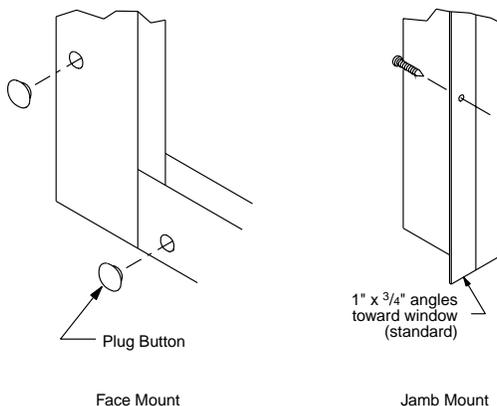

Figure 8
- B. For face mount, side channel mounts on the surface of the wall or window mullion. Fasteners go through the side channels. Plug buttons should be used to cover holes (access and mounting holes will be pre-drilled) (see Fig. 8).
- C. For inside or jamb mount, a mounting angle has been attached to side channels. Install side channel with mounting angle toward window, if depth will allow, so it is not visible (it can also be installed toward the room). Fasteners will go through the mounting flange (see Fig. 8).